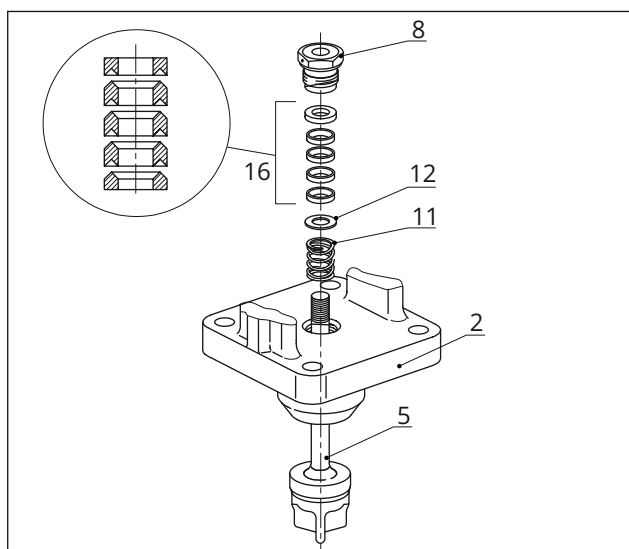

Fig. 30: Standard packing
10. Place the flange (2) onto the body.
11. Carefully slide the packing parts over the plug stem into the packing chamber using a suitable tool. Observe the proper sequence (see Fig. 30).
12. Firmly press the plug (5) into the seat (4). Fasten down the flange (2) with the body nuts (14). Tighten the nuts gradually in a crisscross pattern. Observe tightening torques.
13. Screw in the threaded bushing (8) and tighten it. Observe tightening torques.
14. Loosely screw the lock nut (10) and stem connector nut (9) onto the plug stem.
9. Carefully slide the packing parts over the plug stem extension into the packing chamber using a suitable tool. Observe the proper sequence (see Fig. 30).
10. Fasten the valve bonnet with nuts (33) and bolts (32). Observe tightening torques.
11. Screw in the threaded bushing (8) and tighten it. Observe tightening torques.
12. Loosely screw the lock nut (10) and stem connector nut (9) onto the plug stem.